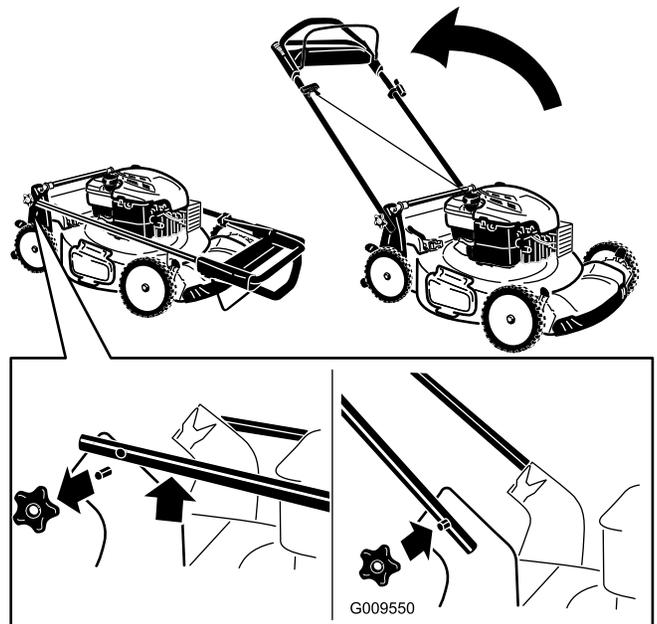

Figure 3
1. Remove the handle knobs from the machine (Figure 3).
3. Install and tighten the handle knobs that you removed in step 1 (Figure 3).